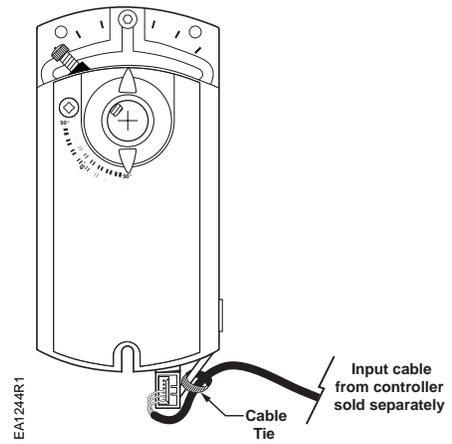

Figure 22. Input Cable Installed in Bottom Three Contacts.
2. Secure the cable to the actuator bracket with a cable tie. (See Figure 22.)